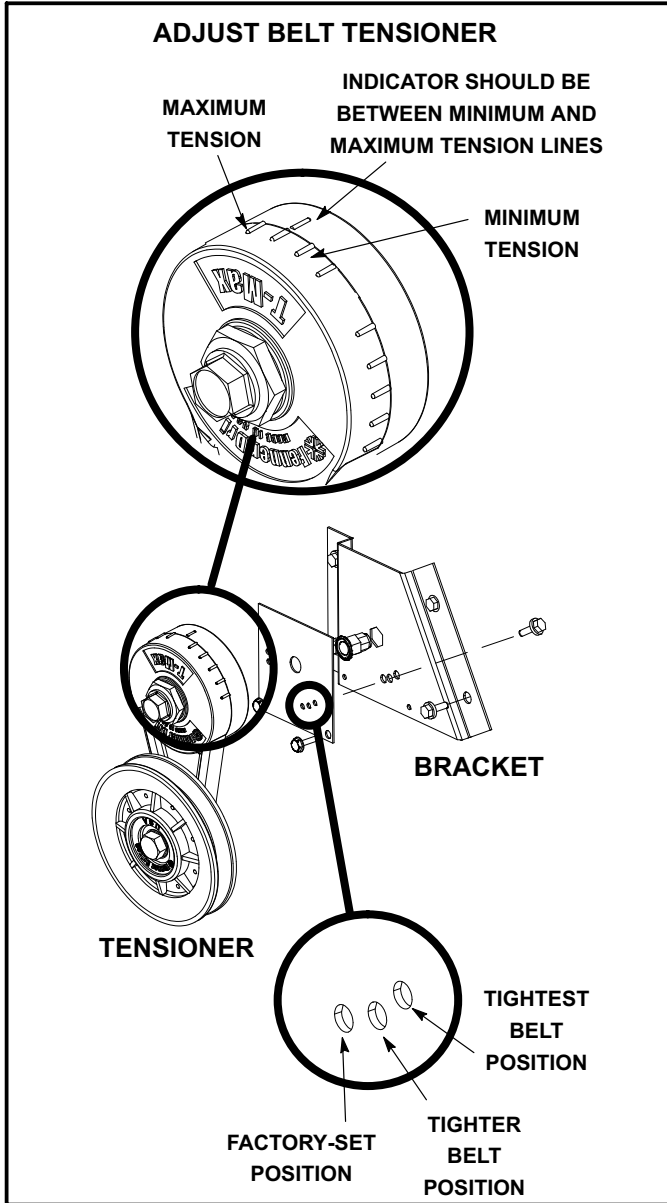

FIGURE 10
- 2- Remove bracket from blower housing. See figure 10.